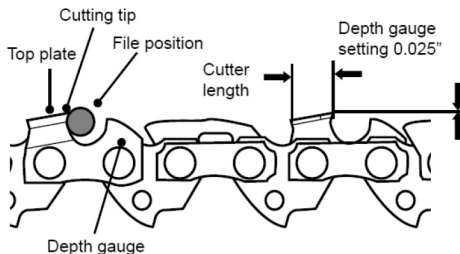

Fig. 30
10). Use a depth gauge measuring instrument to check the height of the depth gauge. Depth gauge measuring jigs are available from most reputable tool merchants. (See Fig. 30)